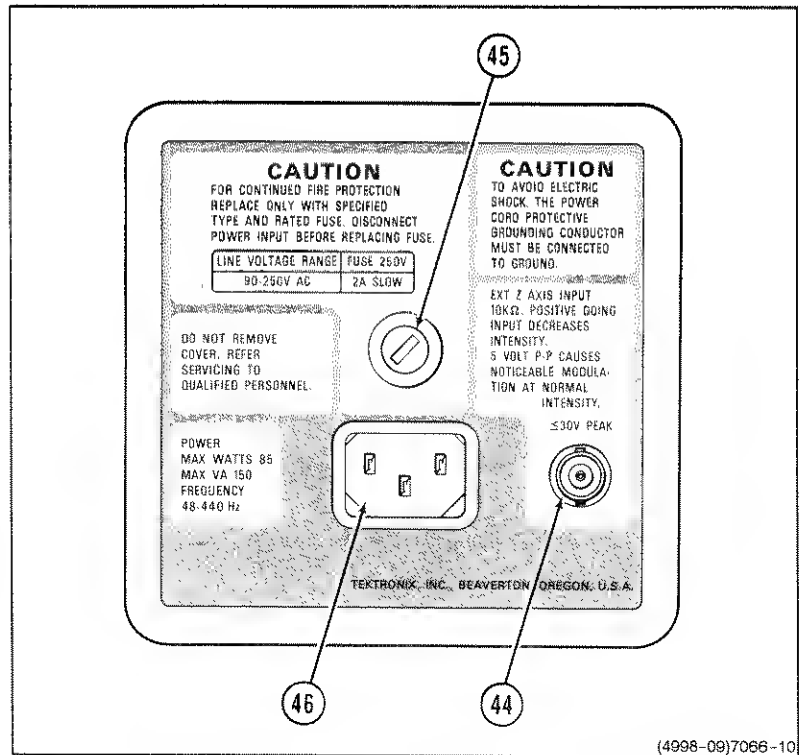

Figure 3-7. Rear panel.
Refer to Figure 3-7 for location of items 44 through 46.
- ④ **EXT Z-AXIS Input Connector** — Allows external signals to be applied to the Z-Axis circuit to control the intensity of NON-STORE waveform displays. Applied signals do not affect the display waveshape. External signals with fast rise and fall times provide the best defined intensity modulation. Noticeable intensity modulation is produced at normal viewing intensity levels by a 5 V p-p signal. The Z-Axis signals must be time-related to the trigger signal to obtain a stable intensity-modulation pattern on the displayed waveform.